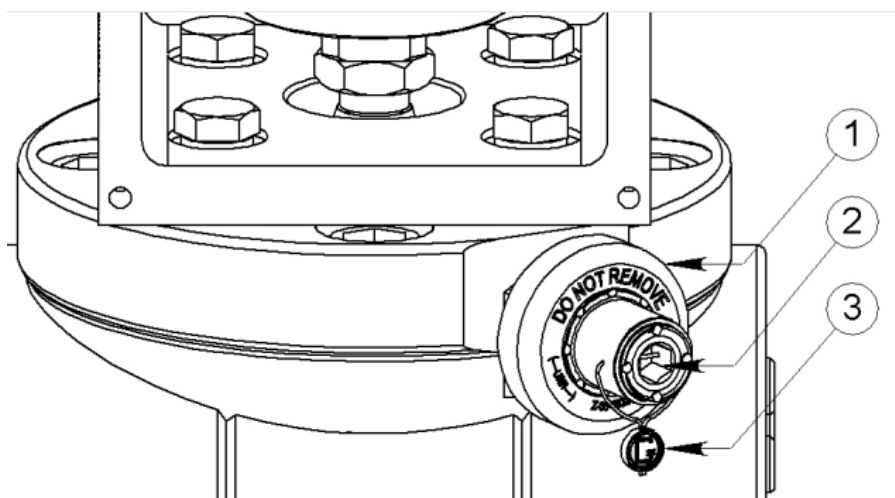

Fig 4.0 - Lock off Valve
- 11.1.7 Lock off Valve (Optional) - Check for leakage from this area. If a leak is identified (leakage can be confirmed by a slight noise or presence of grease), stop the leak to atmosphere by tightening the lock off grub screw. See Fig 4.0 for diagram of the Lock off Valve arrangement.